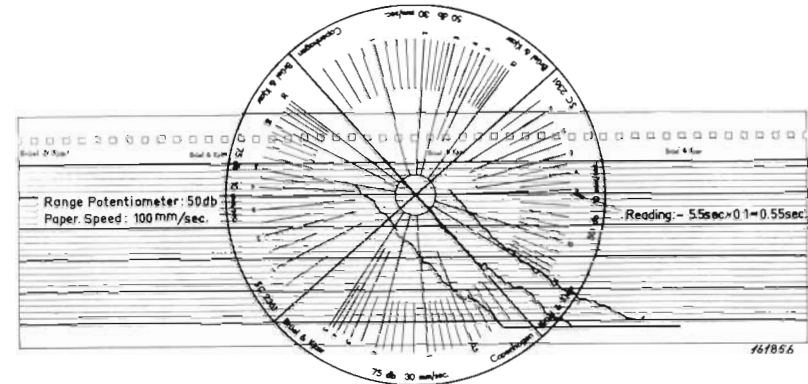

Fig.5.13. Use of Protractor SC 2361, ten times higher paper speed used than on the protractor (50 dB 10 mm/sec.). Reading then divided by 10 i.e. 0.55 sec.
Paper Speed 100 mm/sec.: Use the section "50 dB 10 mm/sec." and divide the measured result by 10, see also Fig.5.13.
1. The Protractor is held so that the printing is readable. The proper section is chosen and its left limiting line (thick diagonal) is placed on top of the portion of the recorded decay curve to be measured, and in such a manner that the centre of the Protractor coincides with one of the horizontal lines on the recording paper. See Fig.5.13.